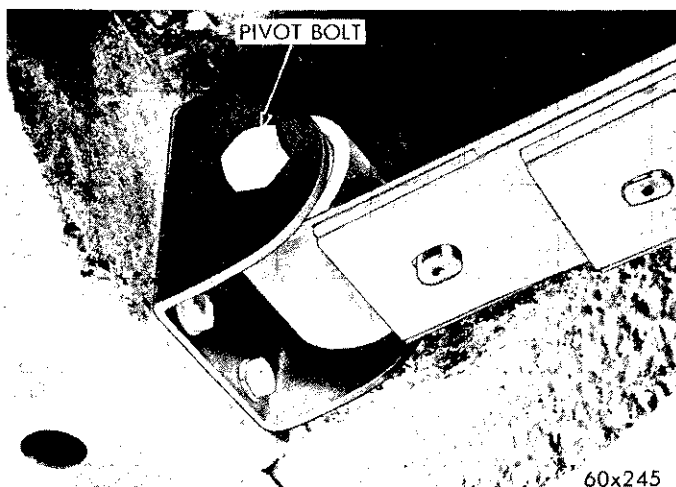

Fig. 3—Rear Spring Front Hanger
- (3) Loosen the rear spring silent block bolt nut. The nut should be backed off until it is retained on the silent block bolt (Fig. 3) by two or three threads.
- (4) Using a pry bar between the silent block bolt nut and the body frame, force the silent block bolt outward until the nut contacts the spring mounting bracket.
- (5) Remove the silent block bolt nut and using a suitable tool, force the silent block bolt out of the spring.
- (6) Remove the spring "U" bolts and spring.